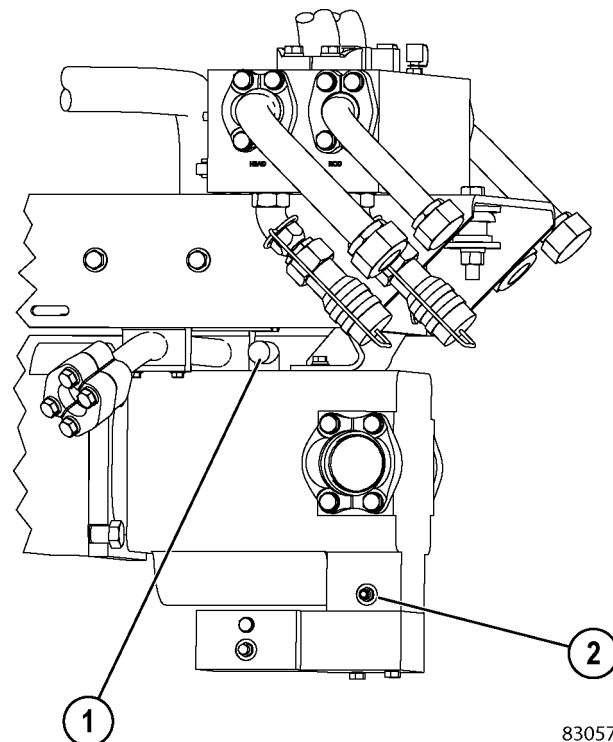

FIGURE 10-4. STEERING PUMP & HOIST SYSTEM QUICK DISCONNECTS
- Pressure test port "GPA" (2, Figure 10-4) located on the steering pump - 35 000 kPa (5,000 psi).
12. The steering pump case must be filled with oil before startup to avoid pump damage. Disconnect the hose that is connected to fitting (1, Figure 10-4). Then remove fitting (1). Fill the steering pump case with clean type C-4 hydraulic oil through the case drain port. It may require up to 2.9 liters (3 quarts) of oil. Re-install fitting (1) and reconnect the hose.